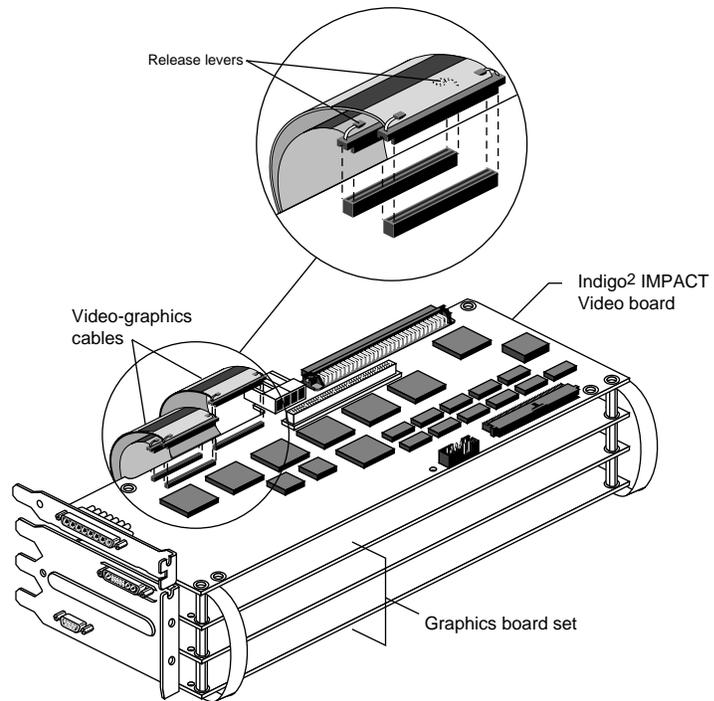

Figure 3-2 Detaching the Video-Graphics Cables From the Video Board
2. After you have released each connector, pull each connector up. See Figure 3-2.